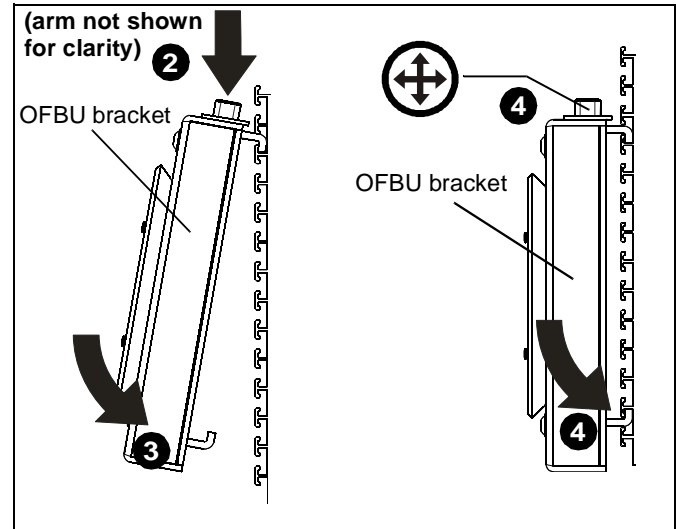

Figure 5
2. Locate desired installation location and slide upper mounting plate into wall making sure bracket is seated in channel bottom. (See Figure 5)
4. Using 1/2" socket, tighten tension hex head bolt until lower mounting plate slides into channel in wall and continue tightening until resistance is felt. (See Figure 5)